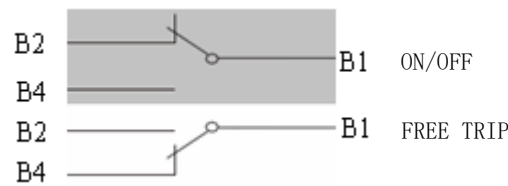

Fig 9
11.2 Rated parameters of the alarm contact (Table7、fig9)